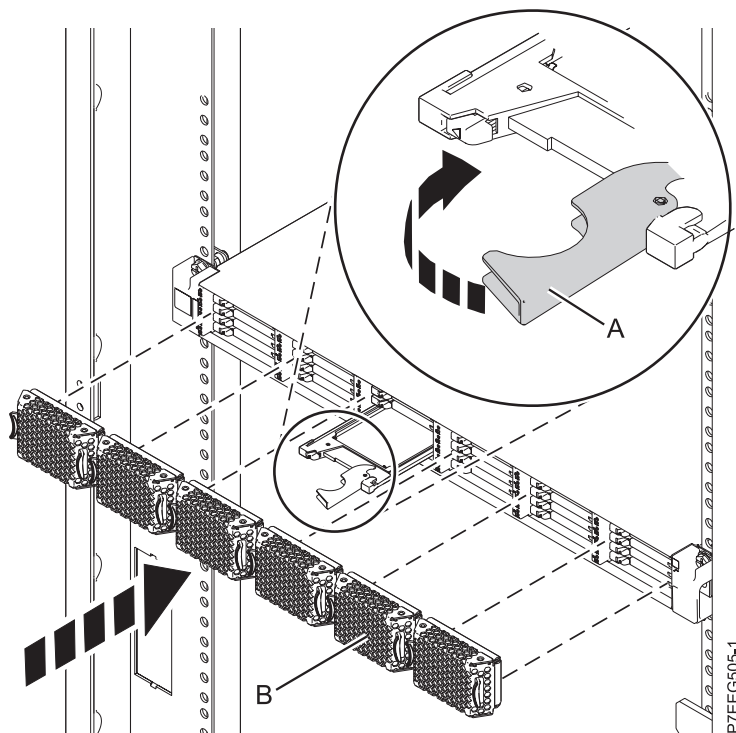

Figure 40. Replacing a solid-state drive in the EDR1 PCIe storage enclosure.
4. When the solid-state drive identify LED flashes, slide the solid-state drive all the way into the EDR1 PCIe storage enclosure until it is fully seated. Then rotate the handle (A) to the locked position. See Figure 40 on page 61.
5. Install the bezel (B).